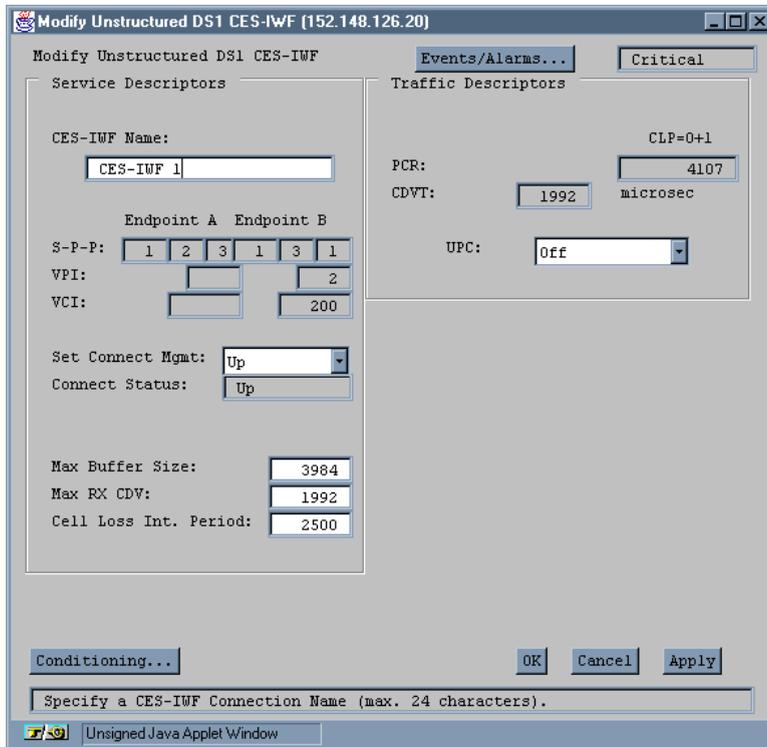
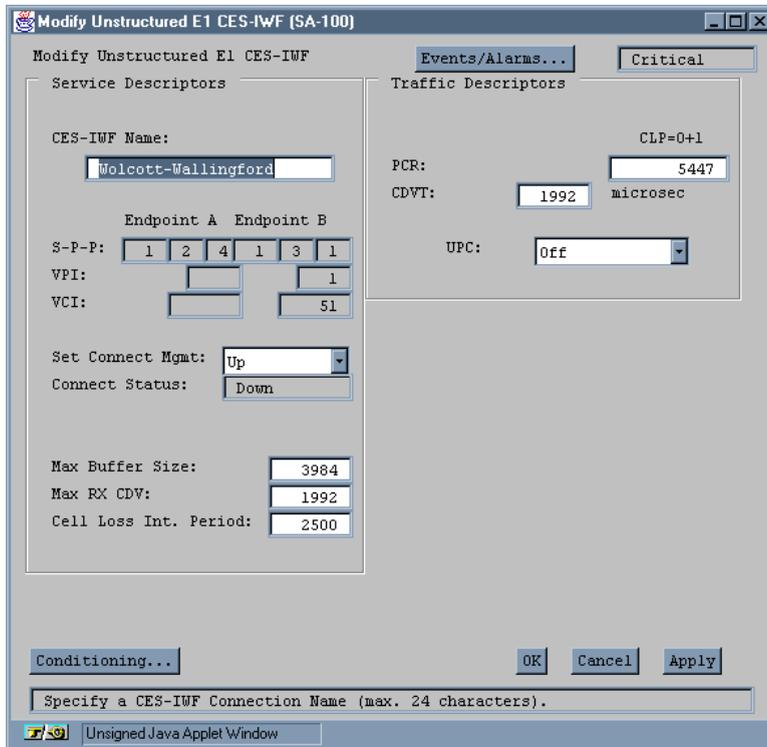

Figure 5-27. Modify Unstructured DS1 CES-IWF Window
Figure 5-28. Modify Unstructured E1 CES-IWF Window
- If you set CBR Service to Unstructured (the default selection), the Modify Unstructured DS1 CES-IWF window (see Figure 5-27) appears if you are working on a DS1 port; if you are working on an E1 port, the Modify Unstructured E1 CES-IWF window appears (see Figure 5-28).